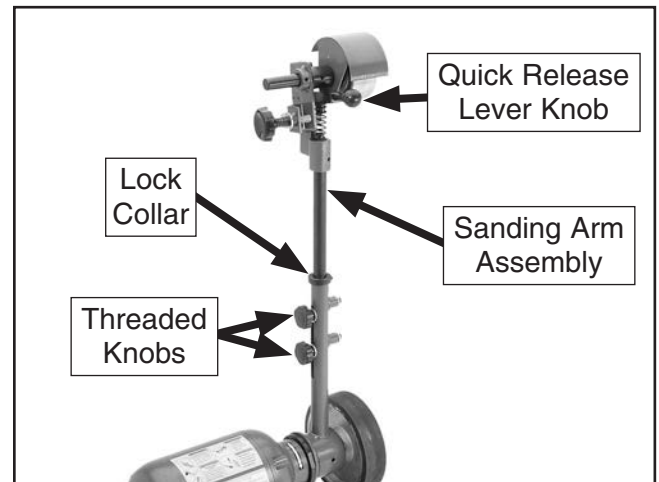

Figure 14. Sanding arm assembly installed.
- Remove the two threaded knobs and flat washers from the sanding arm assembly, insert the shaft into the pivot arm tube until the lock collar rests on top of the tube, as shown in **Figure 14**, then re-install the knobs and flat washers to hold it in place.
- Install the quick release lever knob as shown in **Figure 14**.